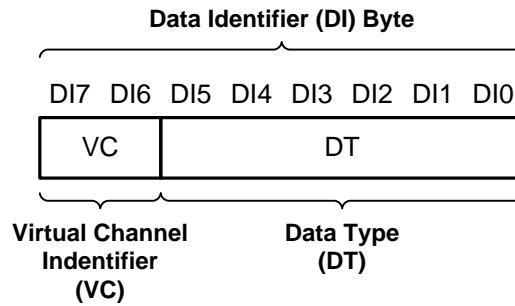

图 23. CSI-2 Data Identifier Structure
The DS90UB954-Q1 MIPI CSI-2 protocol interface transmits the data identifier byte containing the values for the virtual channel ID (VC) and data type (DT) for the application specific payload data, as shown in 图 23. The virtual channel ID is contained in the 2 MSBs of the data identifier byte and identify the data as directed to one of four virtual channels. The value of the data type is contained in the six LSBs of the data identifier byte. When partnered with a DS90UB953-Q1 or DS90UB935-Q1 serializer, the Data Type is passed through from the received CSI-2 packets. When partnered with DS90UB933-Q1 or DS90UB913A-Q1 the received RAW mode data is converted to CSI-2 Tx packets with assigned data type and virtual channel ID and matches what is sent by the video source.